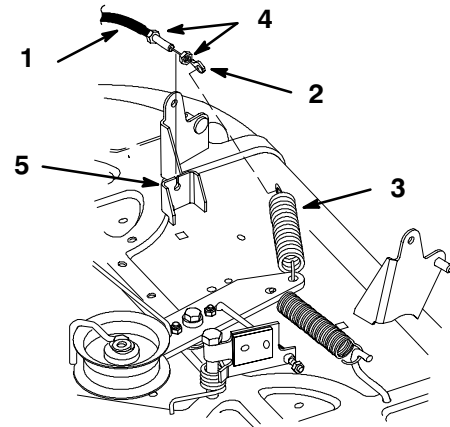

Figure 43
10. Remove first jam nut and thread second jam nut onto the blade control (PTO) cable all the way. Route cable through slot in deck bracket and thread second jam nut onto cable (Fig. 43).
11. Hook end of blade control (PTO) cable onto idler spring (Fig. 43).